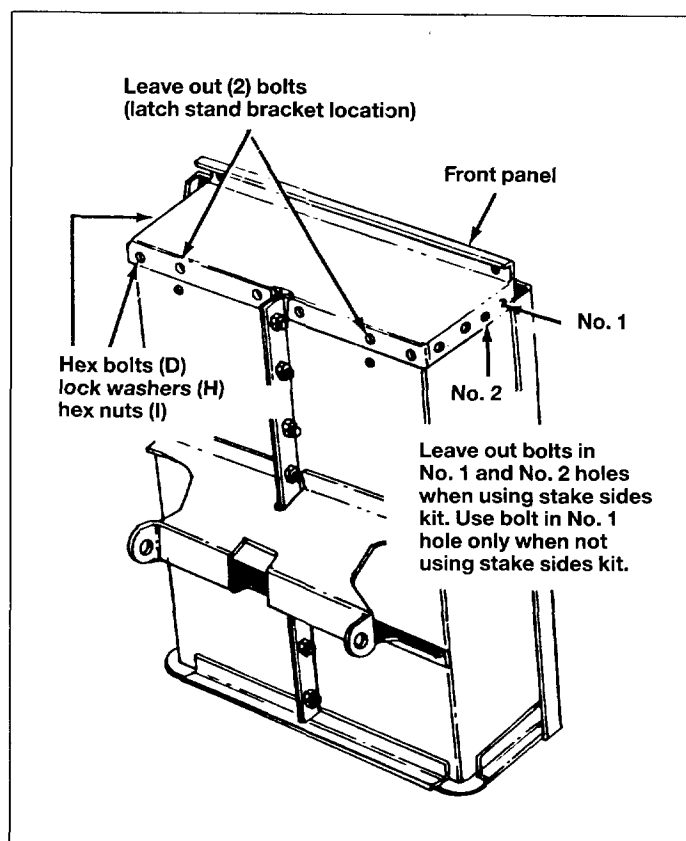

Fig. 8
13. Assemble front panel to open end of cart body, using $1/4" \times 1/2"$ (6 mm $\times$ 12 mm) hex bolts (D), lock washers (H) and hex nuts (I). Bolt heads to inside of cart. See figure 8.
N.B. Do not assemble bolts in No. 1 or No. 2 holes when using optional stake sides kit (each side). See figure 8.